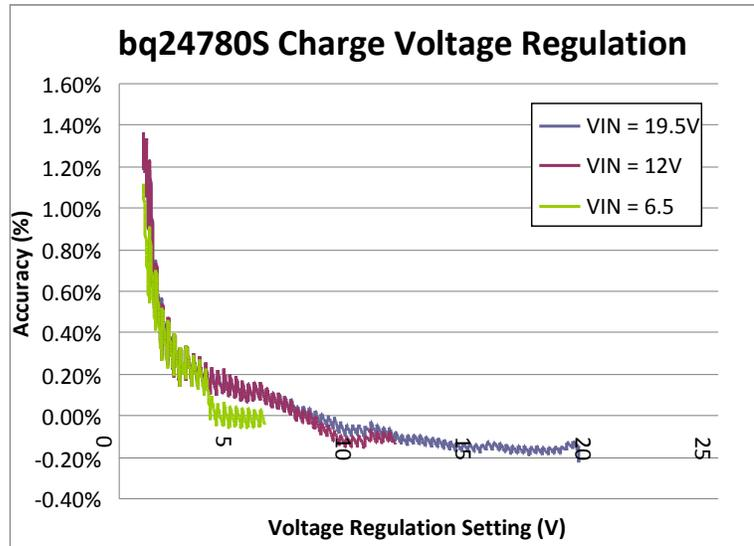

Figure 4. TIDA-00657 Charge Voltage Accuracy
- Figure 4 shows the bq24780S charge voltage accuracy across at 25°C